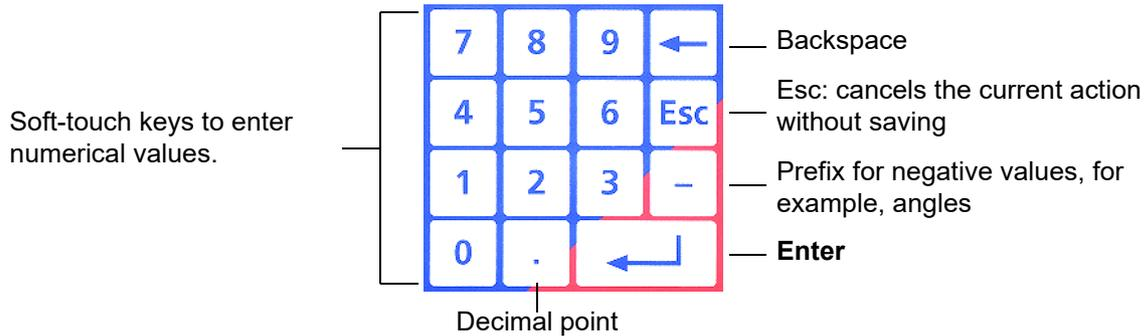

Figure 2-16: Soft-touch keys to enter numerical values
- ▶ type in the value of your choice using the numeric soft-touch keys to the left of the handwheel (refer to Figure 2-16).